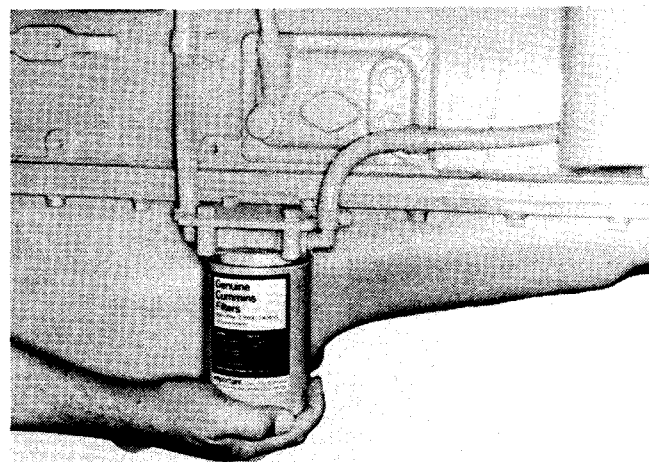

Fig. 2-26, (N11976). Installing spin-on corrosion resistor
3. Install new element (see caution above), tighten until seal touches filter head. Tighten an additional one-half to three-fourths turn. Fig. 2-26, open shut-off valves.